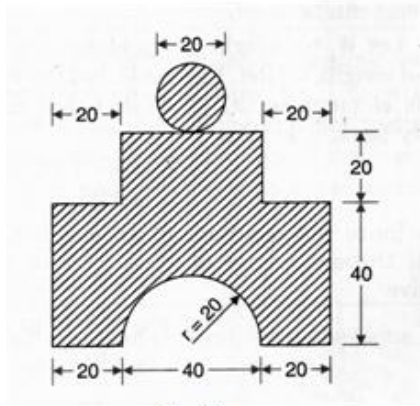

Fig.5
- 12 Determine the followings for the built-up section shown in Fig.5, all dimensions are in mm: (10)